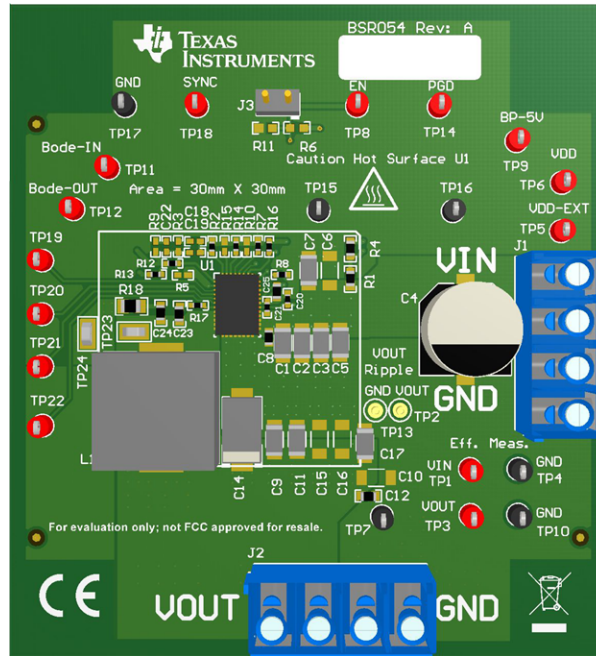

Figure 2. BSR054EVM Overview
**Multimeters:** It is recommended to use two separate multimeters Figure 2. One meter is used to measure  $V_{IN}$  and one to measure  $V_{OUT}$ .
**Output Load:** A variable electronic load is recommended for testing Figure 2. It must be capable of 25 A at voltages as low as 0.6 V.
1. Connect VOUT to J2 and VOUT\_GND to J2 Figure 2.
4. Connect VIN to J1 and VIN\_GND to J1 Figure 2.